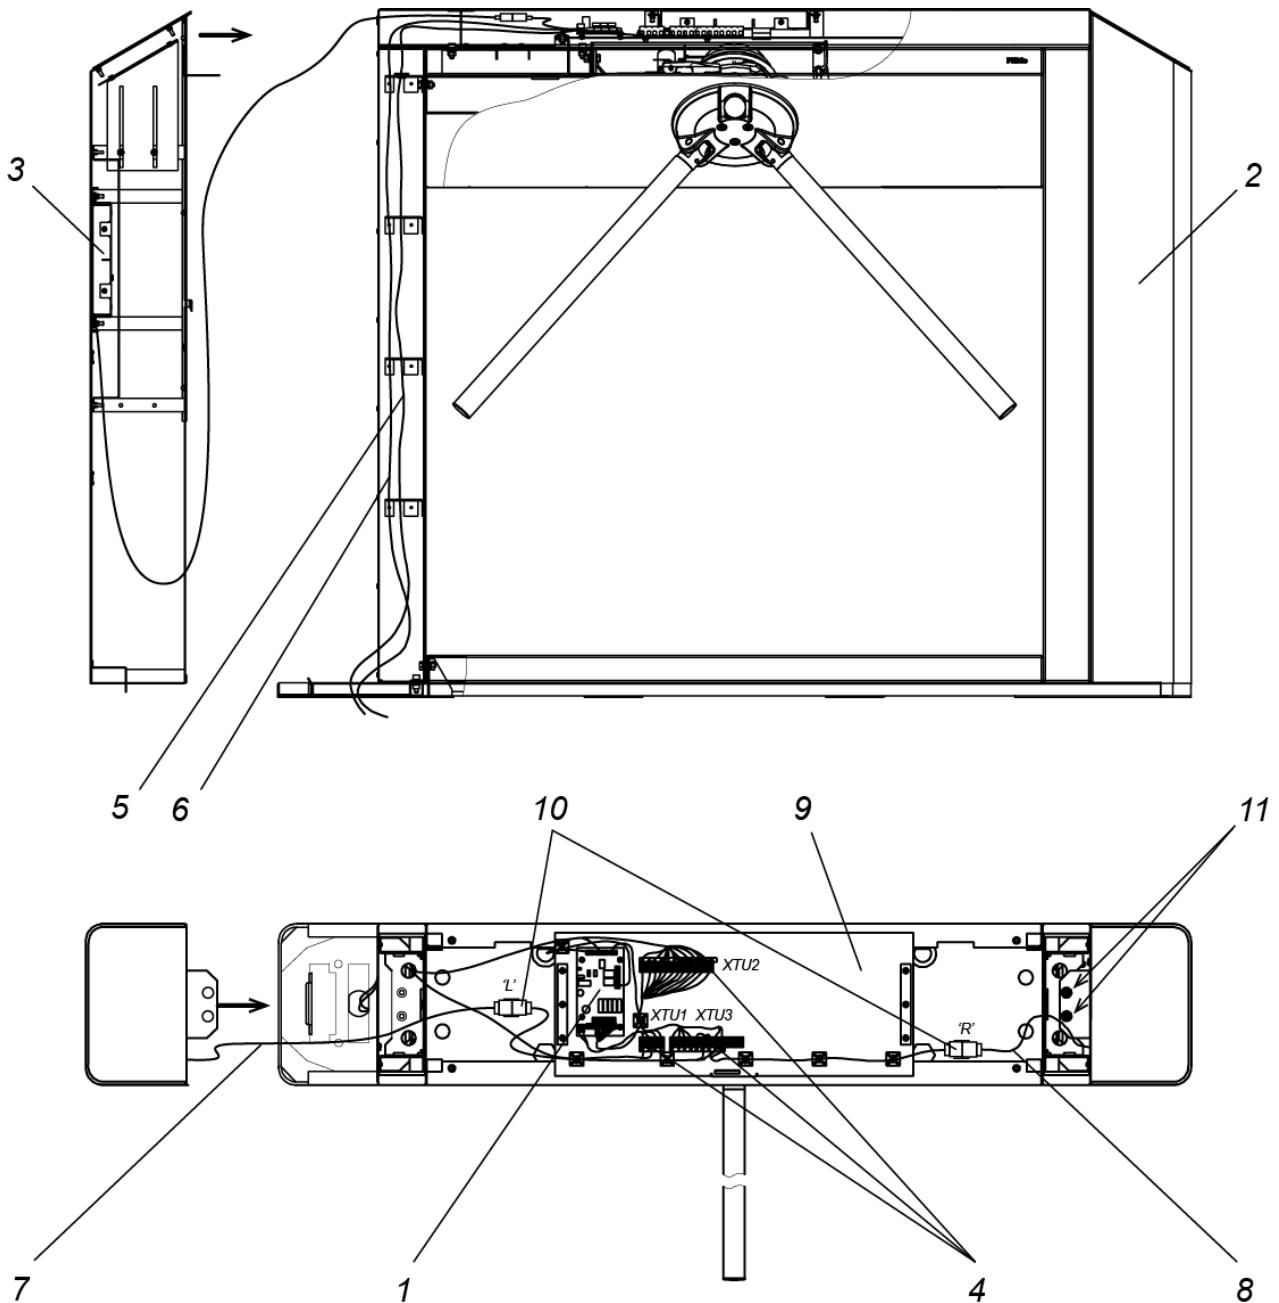

Figure 15. Cable layout inside the housing
3. If you lay the cables under the floor surface, prepare the electric raceway to the cables laying zone of the turnstile housing. The cables layout inside the turnstile housing is shown in Fig. 15.
5. Unpack main housing of the turnstile (box №1). Remove the turnstile housing main cover (2), ref. Section 6.
7. Connect the power cable (9) to a connector block **XTU1** according to connection layout.
8. If necessary, install the board of the external ACS controller inside the turnstile housing on the bracket (9, Fig. 15) and connect it to the CLB board (ref. Clause 8.5).
9. Connect the cable of the RC-panel (10) or WRC to a connector block **XTU2** (ref. Clause 8.5) or to external ACS-controller (ref. controller Operation Manual).
12. Unpack the side modules (6, 13 or 17) (box No.2) and the side covers (8) (packed separately).
- fix the side module using two screws M5×12 with washers (11 in Fig. 15);
- connect the indication cable connector from the side module to the corresponding (right "R" or left "L") indication cable connector of the main housing (10 in Fig.15).
17. Put back a main cover (2) in an order, opposite to removal, see Section 6.